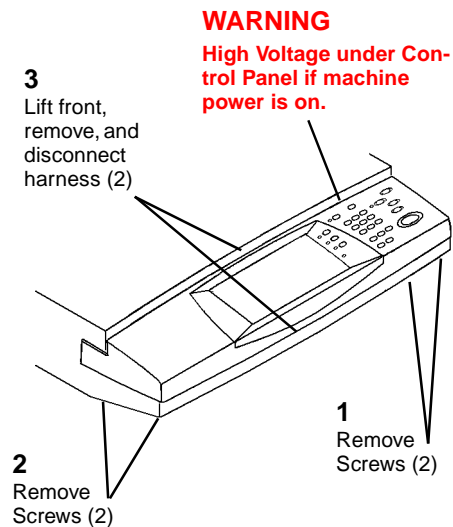

Figure 1 Removing Control Panel
1. Remove Control Panel (Figure 1).